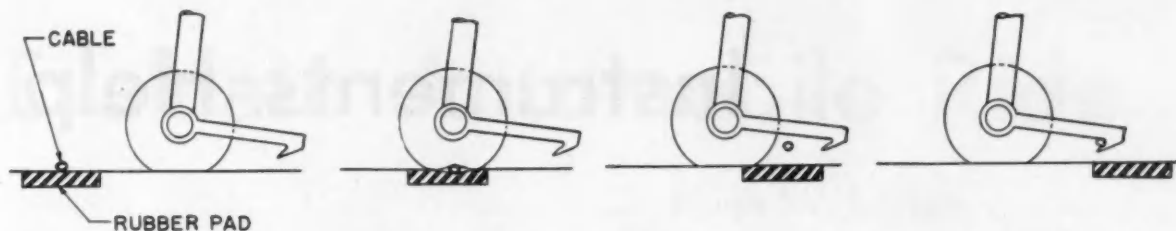

Fig. 3—Aircraft wheel pushes arresting cable into rubber mat. After wheel passes, cable snaps up and is caught by hook on wheel.
- **Wheel pop-up**—The wheels run over the arresting cable and push it into a rubber mat. The cable springs up and catches in a hook behind the wheel. (See Fig. 3.) Some weight would be added to the airplane but not as much as with a tail hook.